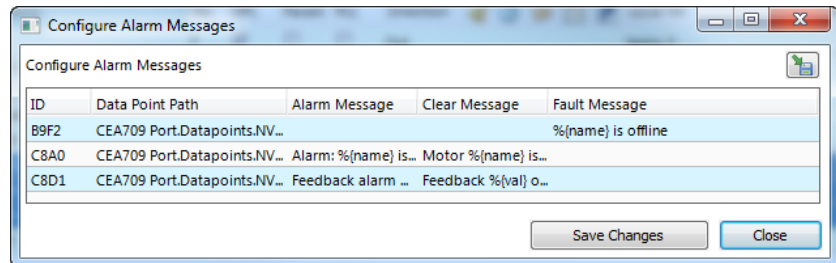

Figure 139: Spreadsheet for multi-edit of alarm messages
- Configure Alarm Messages:** Use this option from the context menu for editing alarm messages (alarm, clear, fault) for all data points in the selection. A dialog with a spreadsheet view appears as shown in Figure 139. Edit the messages directly in the spreadsheet. Alternatively, click on the export button  to export the spreadsheet as a